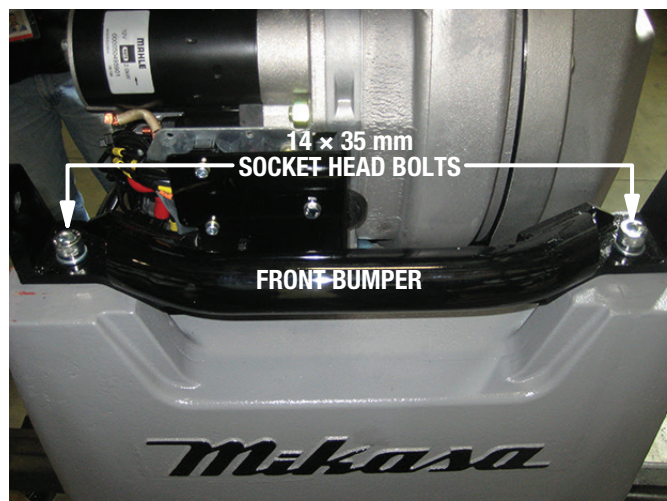

Figure 30. Front Bumper Installation
- Secure the front bumper to the compactor with the two 14 x 35 mm socket head bolts that were removed earlier (Figure 30). Torque the bolts to 130 ft-lb (76.6 N·m).